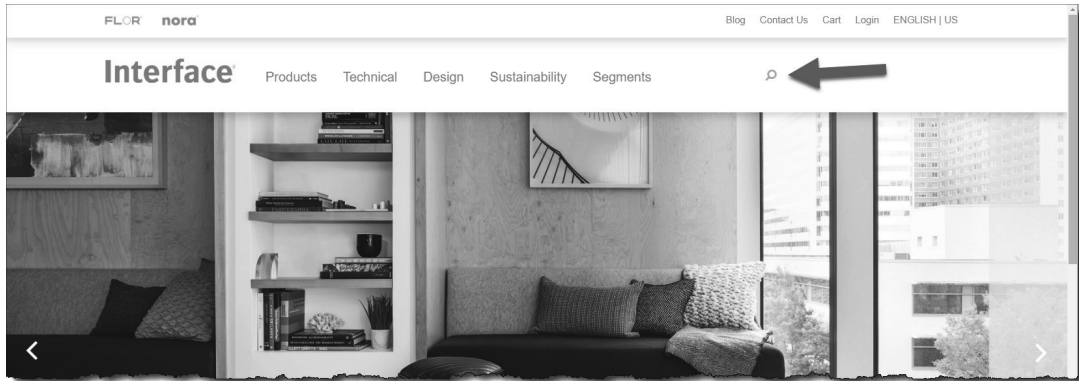

FIGURE 4-3.4 Interface Flor website
9. Select your region, e.g. *Americas\United States*, and then click the **Search** link (Figure 4-3.4).